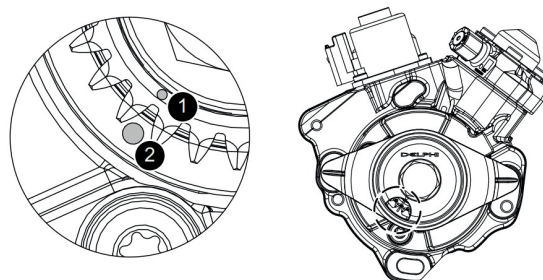

fig 4
- » ensure the timing mark on the drive gear is aligned with the timing mark on the pump body (fig 4)